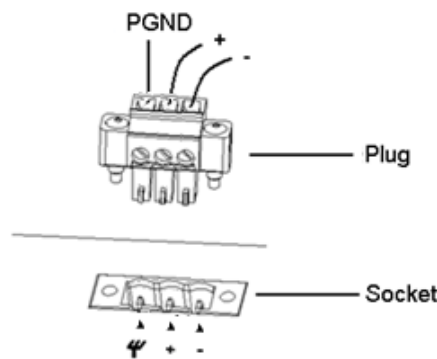

Figure 18 Connection of 3-Pin 3.81mm-Spacing Plug-in Terminal Block
- The connection of 3-pin 7.62mm-spacing plug-in terminal block is similar to that of the 3-pin 3.81mm-spacing plug-in terminal block in Figure 18.